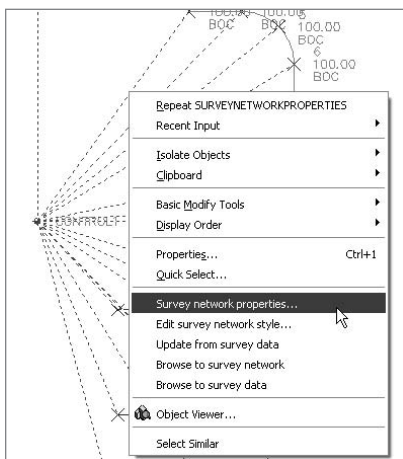

Figure A.12
8. Select the survey network object. Right-click and choose Survey Network Properties from the shortcut menu, as shown in Figure A.12. The Network Properties dialog will appear.